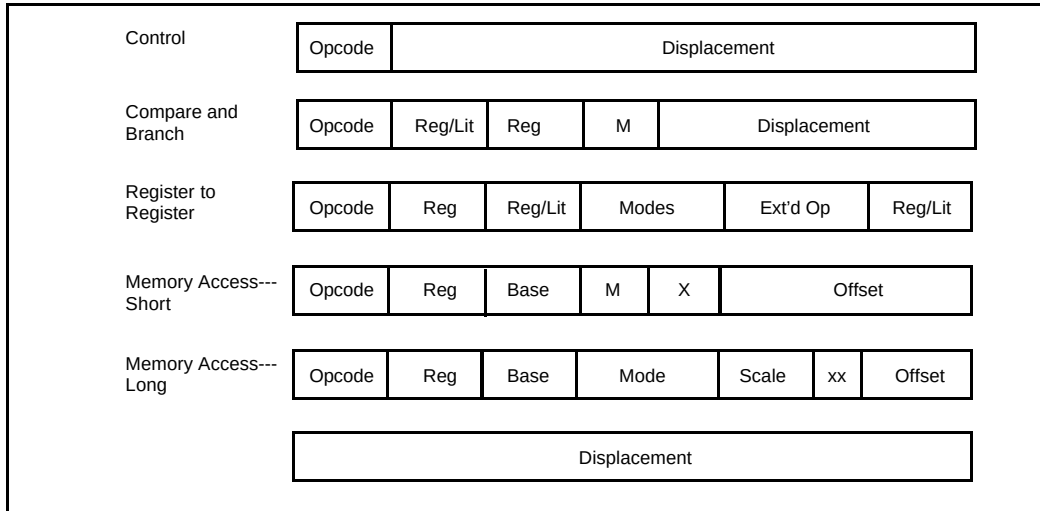

Figure 3. Instruction Formats
| Figure 3 Instruction Formats .....                                                                                                                  | 4    |
4. **Simple Instruction Formats.** All instructions in the 80960SB are 32 bits long and must be aligned on word boundaries. This alignment makes it possible to eliminate the instruction alignment stage in the pipeline. To simplify the instruction decoder, there are only five instruction formats; each instruction uses only one format. (See Figure 3.)